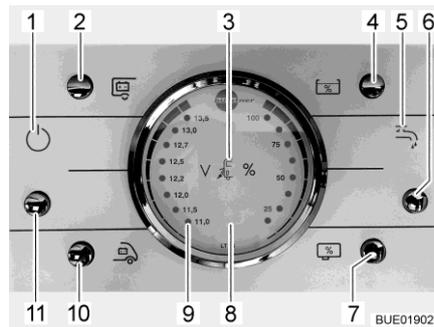

Fig. 188 Panel LT 96
The button (Fig. 188,11) switches the panel and the 12 V power supply to the living area on and off.
- Switching on:** ■ Press the button (Fig. 188,11): The 12 V living area power supply is switched on. The indicator lamp (Fig. 188,1) lights up.
- Switching off:** ■ Press the button (Fig. 188,11): The 12 V living area power supply is switched off. The indicator lamp (Fig. 188,1) goes out.
With the V/tank gauge (Fig. 188,8), note the left scale. The gauge automatically lights up as soon as a button is pressed.
- Press the button (Fig. 188,10): The battery voltage of the starter battery is displayed.
- Press the button (Fig. 188,2): The battery voltage of the living area battery is displayed.
With the V/tank gauge (Fig. 188,8), note the right scale. The gauge automatically lights up as soon as a button is pressed.
- Press the button (Fig. 188,4): The volume of water is displayed.
- Press the button (Fig. 188,7): The volume of waste water is displayed.
- Press the button (Fig. 188,6): The water supply is ON. The water pump indicator lamp (Fig. 188,5) lights up.
- Press the button (Fig. 188,6): The water supply is OFF. The water pump indicator lamp (Fig. 188,5) goes out.
The red "ALARM" warning light (Fig. 188,9) flashes as soon as the voltage of the living area battery falls below 11 V (measured under operation) and there is a risk of a total discharge.
The 12 V indicator lamp (Fig. 188,1) lights up when the 12 V main button (Fig. 188,11) is switched on.
The 230 V indicator lamp (Fig. 188,3) illuminates whenever line voltage is available at the transformer/rectifier input.